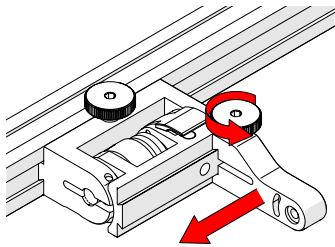

Fig. 62 - Position swing arm
5. Loosen the swing arm knob and slide the swing arm to the opposite end of the probe holder bracket (Fig. 62) or the preferred position. Tighten the swing arm knob.